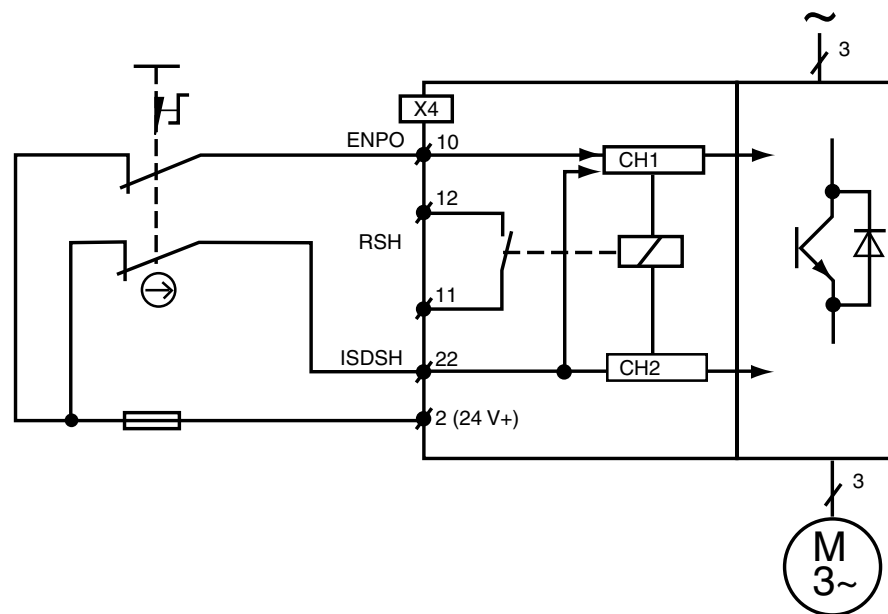

Fig. 6.1 "STO" selection of function via switch with two NC contacts (positively operated)
- There is no protection against unexpected restarting after re-establishing the electrical power supply in the illustrated example circuit, unless an external circuit is used (figure 6.1). If ENPO and ISDSH are High when reconnecting the power supply (see table 6.2), the axle may start up if autostart is programmed. The connected safety circuit on the machine must ensure that the ServoOne (the SRP/CS) can attain and maintain the safe state of the machine.